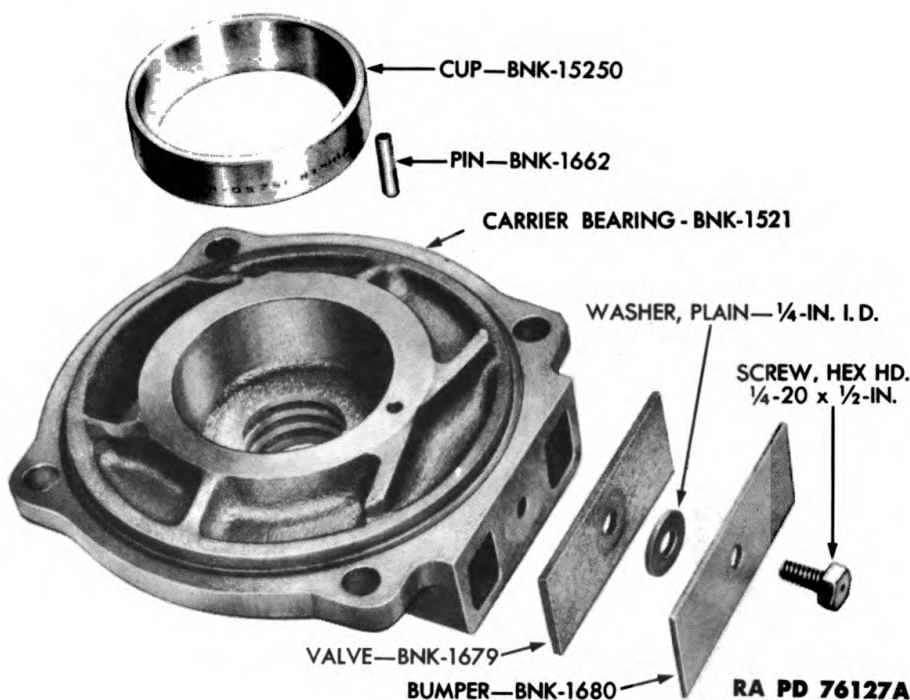

Figure 134 — Air Compressor Bearing Carrier With Bearing Cup and Breather Valve Removed
(12) Disassemble the bearing carrier as shown in figure 134. It will be necessary to force the cup from the plate.